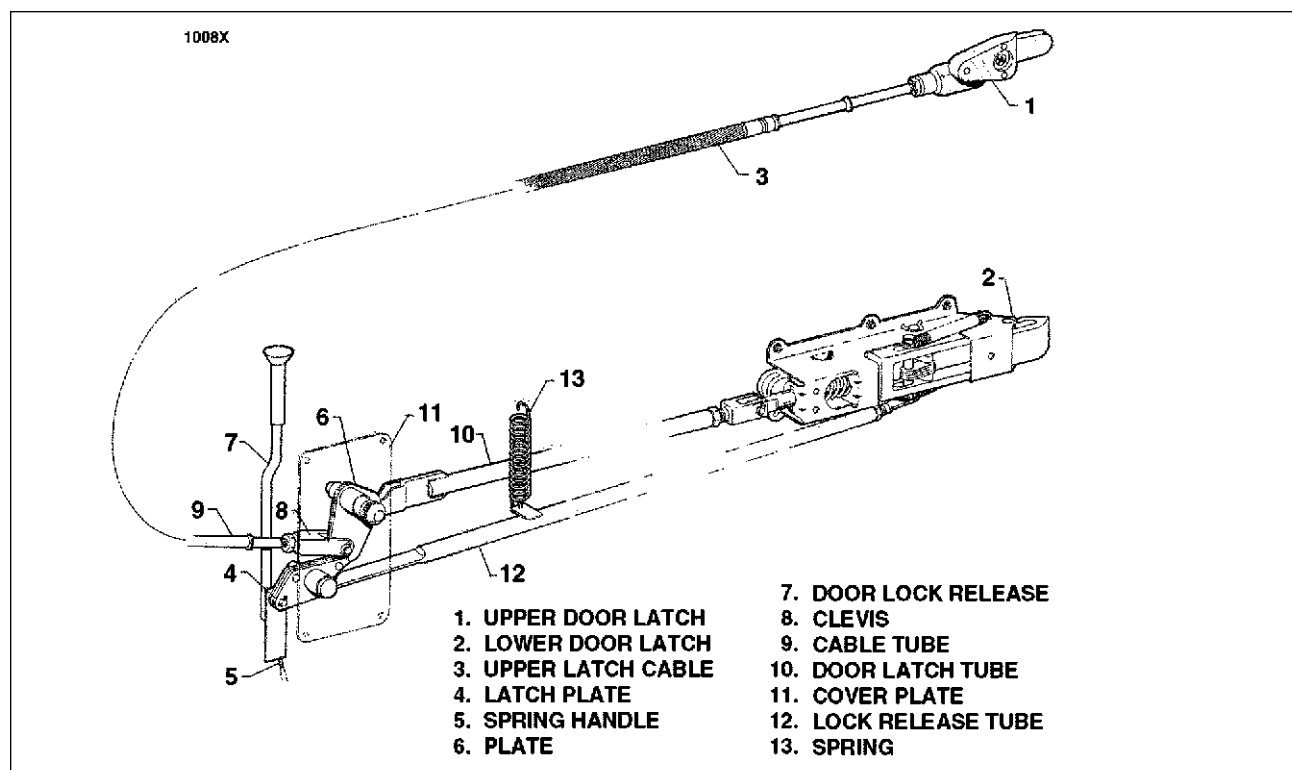

Figure 4-7. Door Locking Mechanism PA-24-250, Serial Nos. 24-2844 to 24-3284
4-41. Installation And Adjustment Of Door Locking Mechanism. (PA-24-250 Serial Nos. 24-3285 and up, PA-24-260 and PA-24-400) (Refer to Figure 4-7.)
- A. Install the upper (1) and lower (2) latch assemblies.
- B. Install latch cable assembly (3) and connect the clevis rod end to the upper latch. Allow approximately three threads of the cable end exposed from the clevis, tighten the lock nut.
- C. Lubricate and install latch plate (4), door lock release (7) and latch spring (5).
- D. Lubricate and install the door handle shaft-plate assembly (6). With the latch plate in locked position, draw the door handle up and to the rear allowing the pawl of the handle-plate assembly (6) to catch the latch plate (4) as shown in Figure 4-7.
- E. Align the latch cable clevis end (8) holes with the lower hole of the handle-plate assembly (6). Ascertain that the clevis pin will slip freely through these holes. Remove the pin and take in one turn if adjustment is with a cable that has been previously installed and two turns with a new cable. Install the pin and safety. Check that tube (9) will rotate freely.
- F. Install door latch tube assembly (10), and pin, safety at the handle-plate assembly. Install cover (1) and secure.
- H. Install door lock release tube (12) and spring (13). Adjust to allow the forward portion of the outside handle to move out finger width when the rearward portion is depressed.
- I. Check the operation of the latch handle and ascertain that the upper and lower latches (1 and 2) are fully extended when the door handle is in a locked position (full forward), the upper latch (1) is retracted when the lower latch is in closed position (neutral handle position, no force applied) and both latches are retracted when the handle is in open position (full rear).
- J. Ascertain that the flat portion of the door lock release tube (12) is 90° to the flat of the latch plate (4).